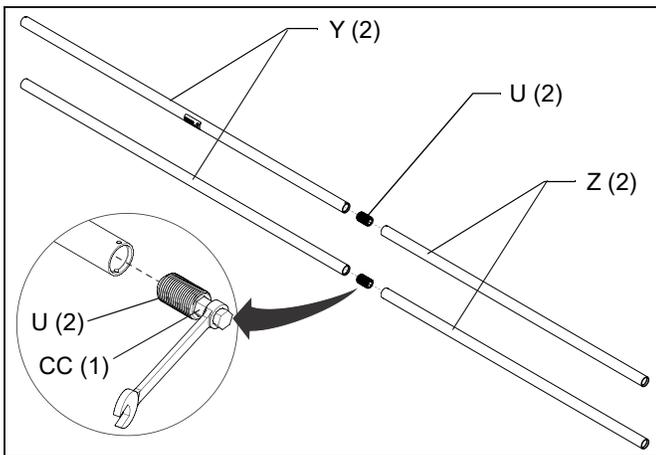

Figure 1
1. Install the 7/8"-14 set screws (U) into the ends of the 42" cross support rails (Z), then thread the 34" cross support rails (Y) onto the set screws in the 42" rails. (See Figure 1)